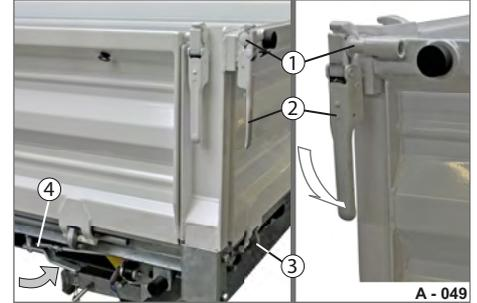

Fig. 67 Swinging gate secured
- ▶ Press the lock lever (Fig. 67/2) shut with your hand flat. The bearing pin (Fig. 67/1) is locked.
- ▶ Press the lever of the central locking position (Fig. 67/4) shut. The lock hooks (Fig. 67/3) lock the swinging gate from below.